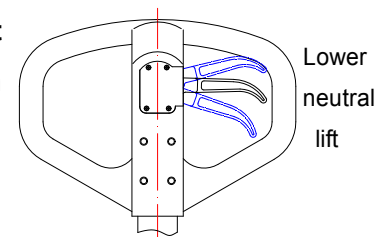

Fig. 9: Lever ACX15E
If necessary, you can adjust the lever according to following steps (Fig. 9):
- If the forks do not descent when the control handle is in the **Lower** position, turn the adjusting nut clockwise until raising the control handle lowers the forks. Then check the **Neutral** position according to fig. 9 and be sure that the adjusting nut is in the proper position.